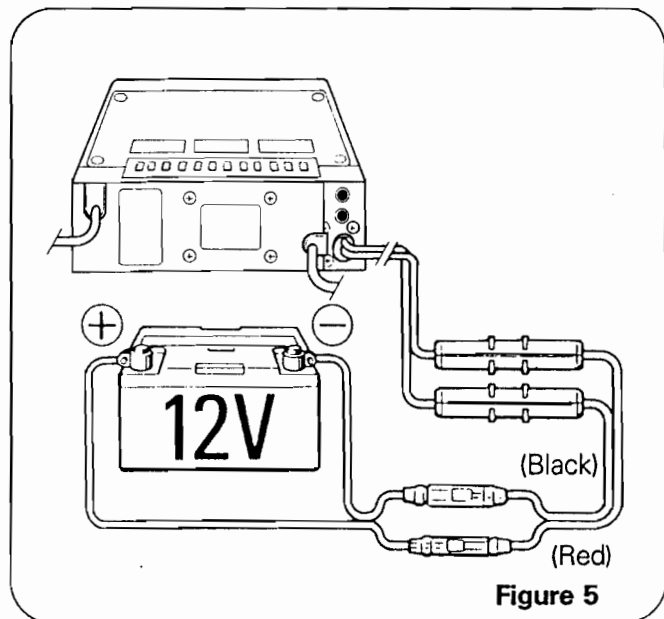

Figure 5
- ① Supply power to the radio unit from the car's battery.
- ② For this, connect the radio unit and the car's battery using an accessory 2.0-m power cord as shown in Figure 5.